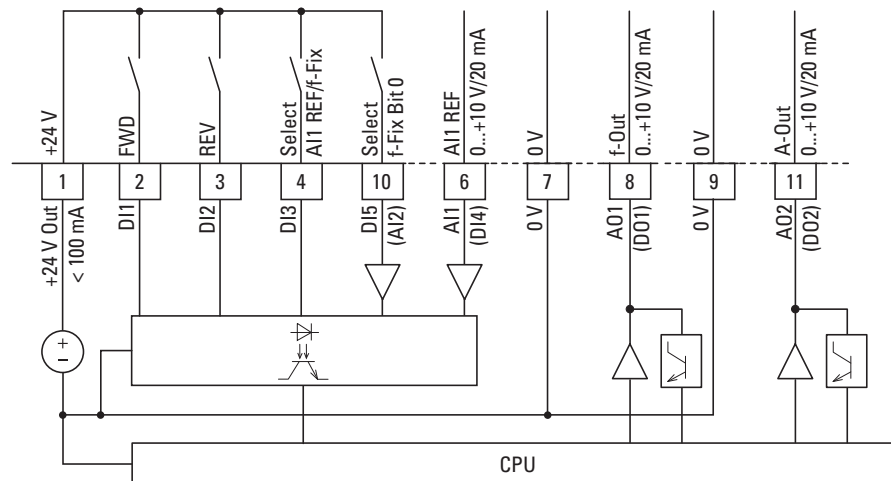

Figure 80: Control signal terminals (digital / analog)
Depending on how parameters P1-12 and P1-13 are set, control signal terminals 6 (AI1) and 10 (AI2) can be connected to analog signals (→ figure 80):
Analog signals are available at the control terminals 8 and 11 (→ figure 80)
Control signal terminals 8 and 11 (→ figure 80) are configured as analog outputs (AO) by default. Parameters P2-11 and P2-13 can be used to configure them as digital outputs (DO) instead.